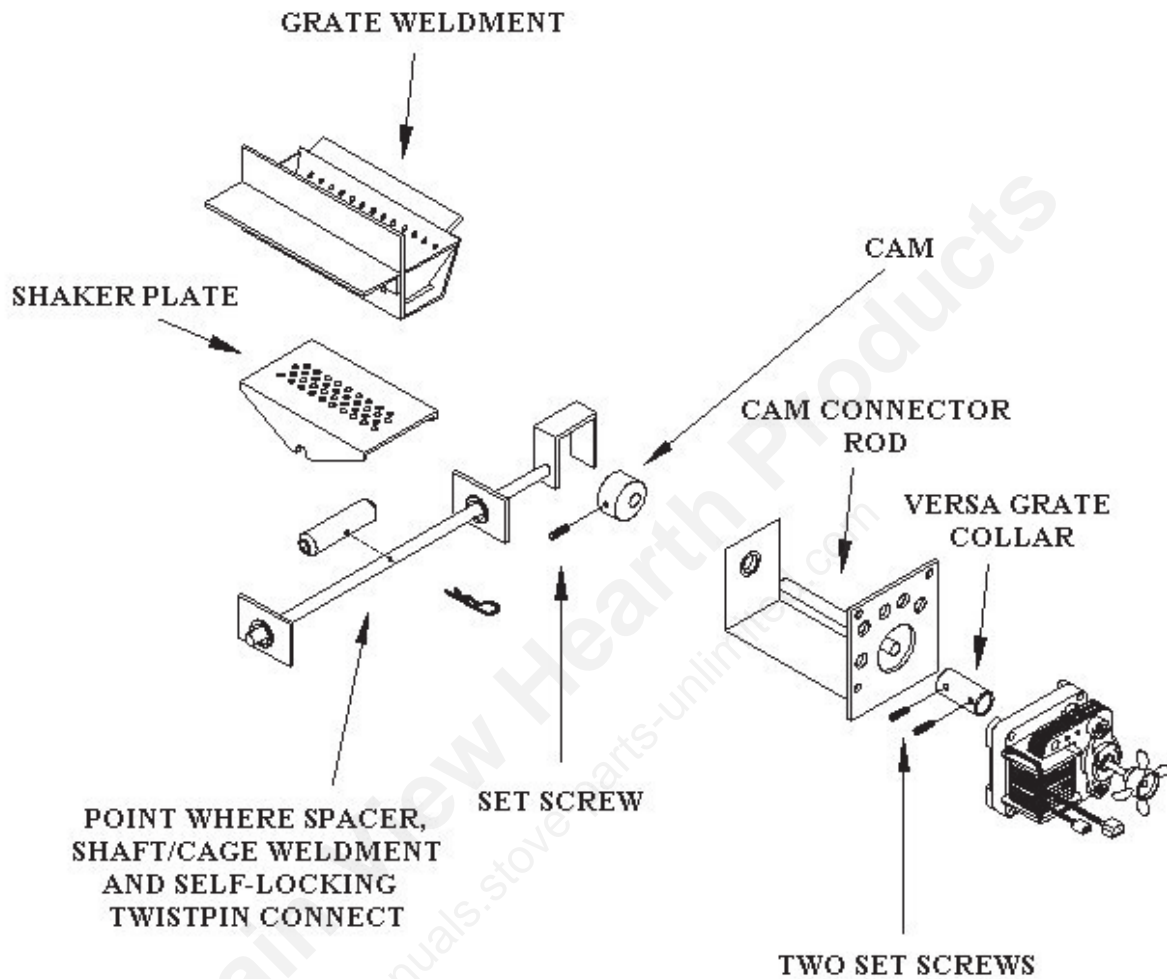

Figure 18
- **Mechanical** – If the motor is running, but the Grate in the stove is not moving back or forth, there may be a problem in the mechanical components. There are 2 areas to look at. (*See figure 18 on page 40 for detail.*)